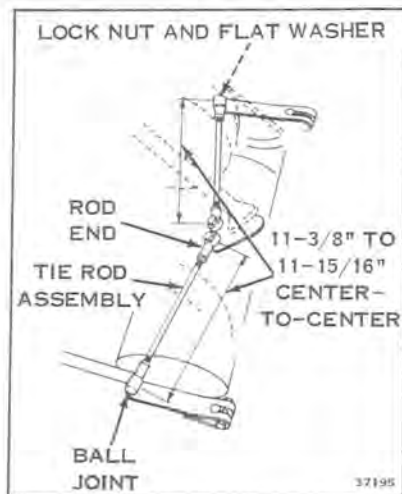

Figure 11-1
Mark ski column and steering arm with center punch as shown in Figure 11-1. Marking is required to assure correct steering geometry on reassembly.
- Remove lock nut and flat washer from ball joint. See Figure 11-1.